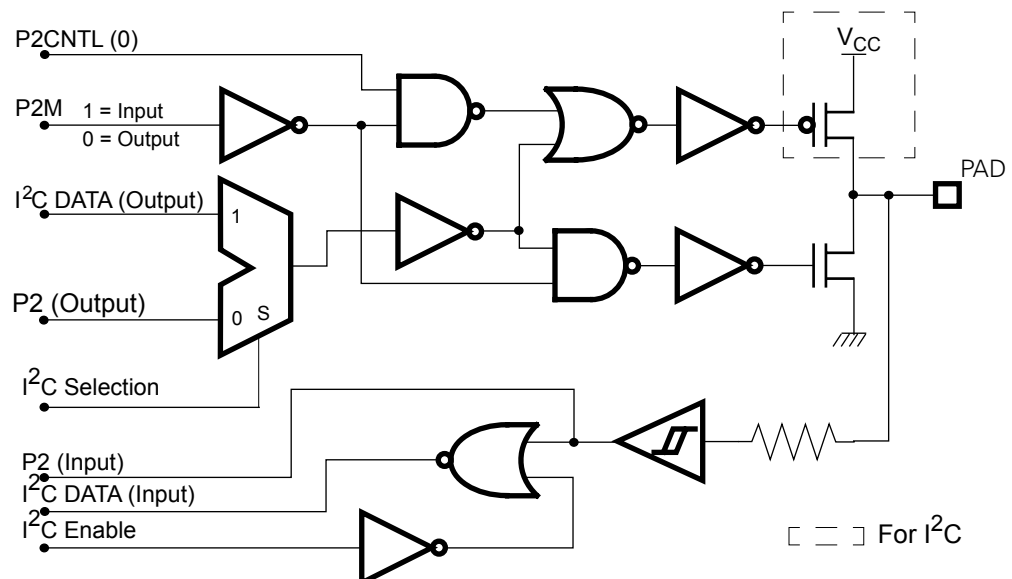

Figure 17 Bidirectional Port Pin Pad Multiplexed with I2C Port
The I²C module is enabled by setting bit (2) in the I2C_CNTL register to 1 (see Figure 17). This bit blocks out I²C logic if it is set to 0. To prevent switching the I²C bus during activation, bits (7,6) of the Port 2 Data Register for I²C selection 1 (bits (5,4) of Port 2 Data Register for I²C selection 0) should be set to 1 before the I²C module is enabled.